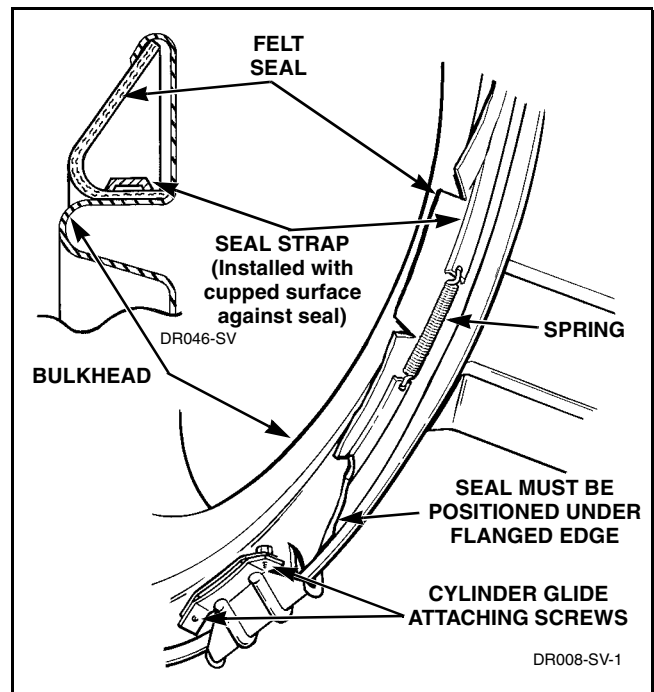

Figure 33
f. Cylinder Glides (Refer to *Figure 33*)
g. Front Cylinder Seal (Refer to *Figure 33*)
- l. Pull rear cylinder seal from under flanged edge of bulkhead. Refer to *Figure 33*.
- m. Carefully unhook spring from the seal strap. Refer to *Figure 33*.